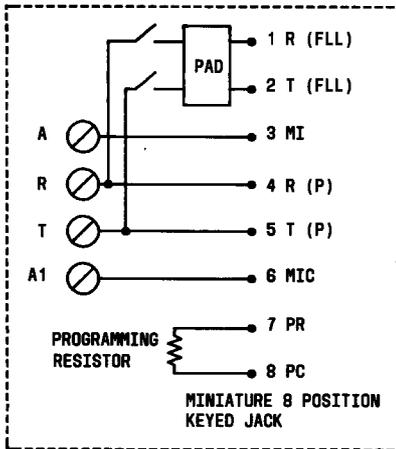

Fig. 7—97A-Type Connecting Block (Universal Data Jack)
2.15 USOC RJ41S: RJ41S is the universal data jack (requires the 97A-type connecting block) for single-line applications of both fixed loss loop and programmed modems. The jack is an 8-position miniature keyed jack and is shown schematically in Fig. 7.
3.03 When the loop loss has been determined, select the proper 97A-type connecting block as directed in the table in Fig. 7. Connect the 97A-type connecting block to the data line. Operate the switch to the position appropriate for the type of data equipment being connected. Instruct the customer as to the proper switch position and leave a copy of the How-to-Operate card (999-100-117).